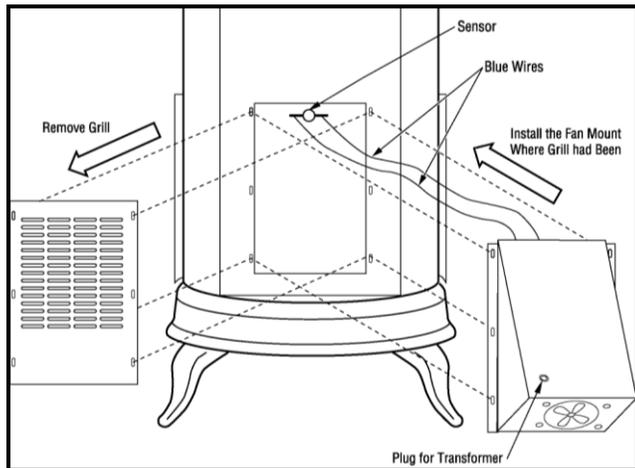
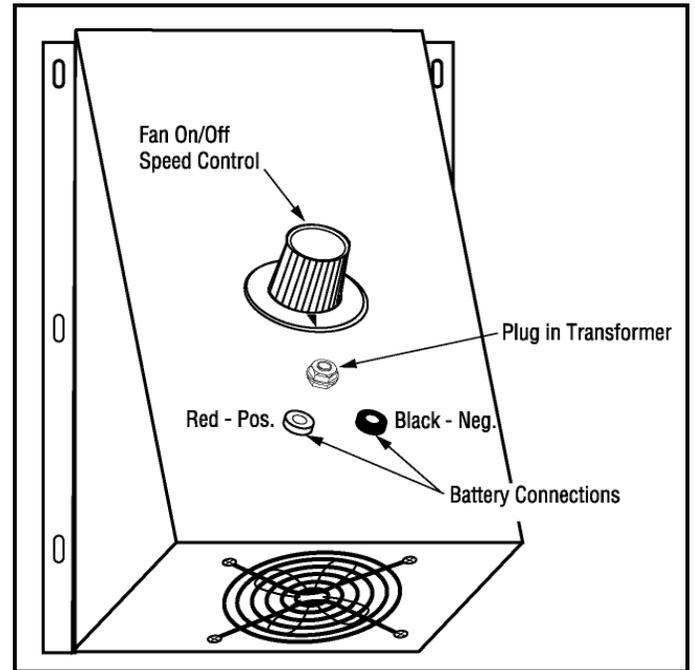

FIGURE 21. BLOWER ASSEMBLY
FIGURE 23. BACK FAN
1. Attach blower assembly to stove body as shown in FIGURE 21. (See FIGURE 23 for a larger picture.)
(See Figure 23)